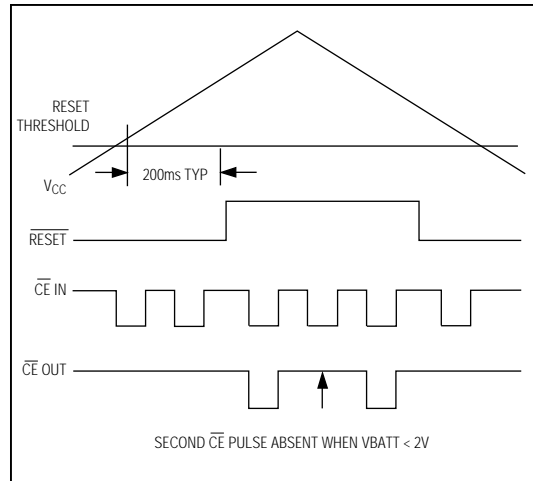

Figure 11. Backup-Battery Monitor Timing Diagram
The MAX791 low-battery voltage function monitors VBATT. Low-battery detection of  $2.0V \pm 0.15V$  is monitored only during the reset-timeout period (200ms) that occurs either after a normal power-up sequence or after the  $\overline{MR}$  reset input has been returned to its high state. If the battery voltage is below 2.0V, the second CE pulse is inhibited after reset timeout. If the battery voltage is above 2.0V, all CE pulses are allowed through the CE gate after the reset timeout period. To use this function, after the 200ms reset delay, write 00 (HEX) to a location using the first CE pulse, and write FF (HEX) to the same location using the second CE pulse following  $\overline{RESET}$  going inactive on power-up. The contents of the memory then indicates a good battery (FF) or a low battery (00) (Figure 11).